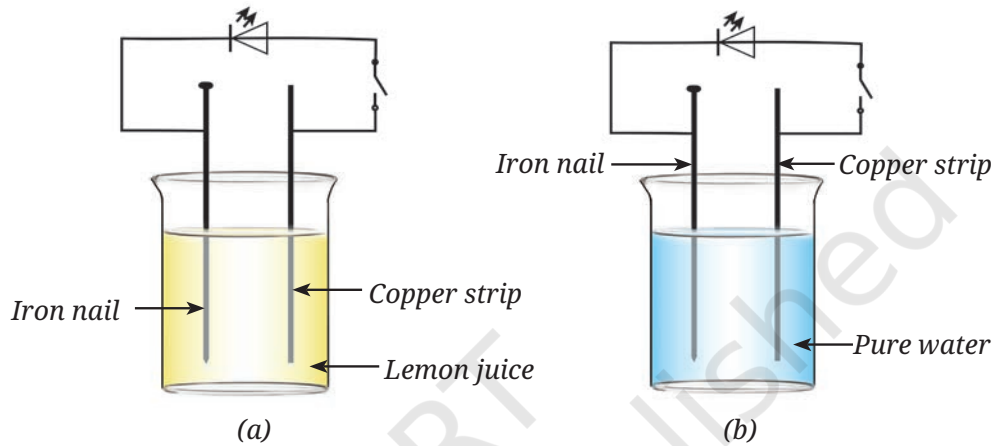

Fig. 4.12
9. In Fig. 4.12, in which case the LED will glow when the switch is closed?